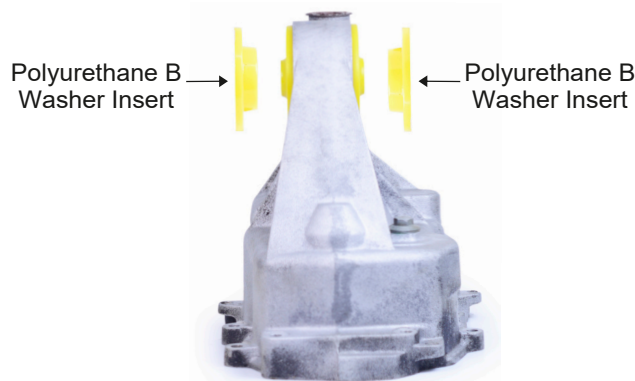

Figure 2: Fitted Assembly - Increased rigidity
5. To increase rigidity by a further 42%, fit polyurethane B insert bushes into polyurethane A bushes. As shown in *Figure 2*.